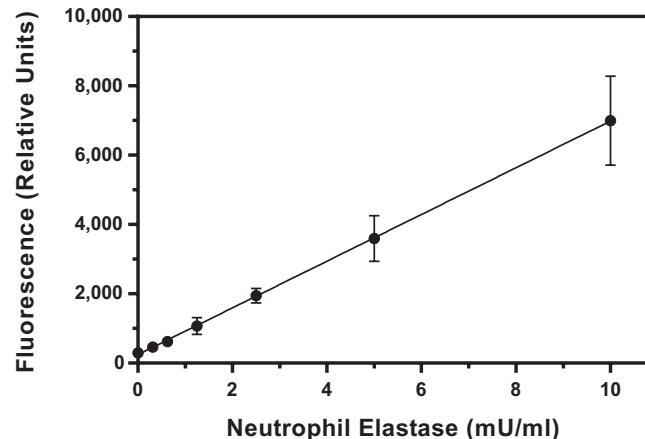

Figure 2. Human Neutrophil Elastase standard curve
3. Plot the corrected fluorescence values (from step 2 above) of each standard as a function of the final concentration of human neutrophil elastase. See Figure 2, on page 15, for a typical standard curve.